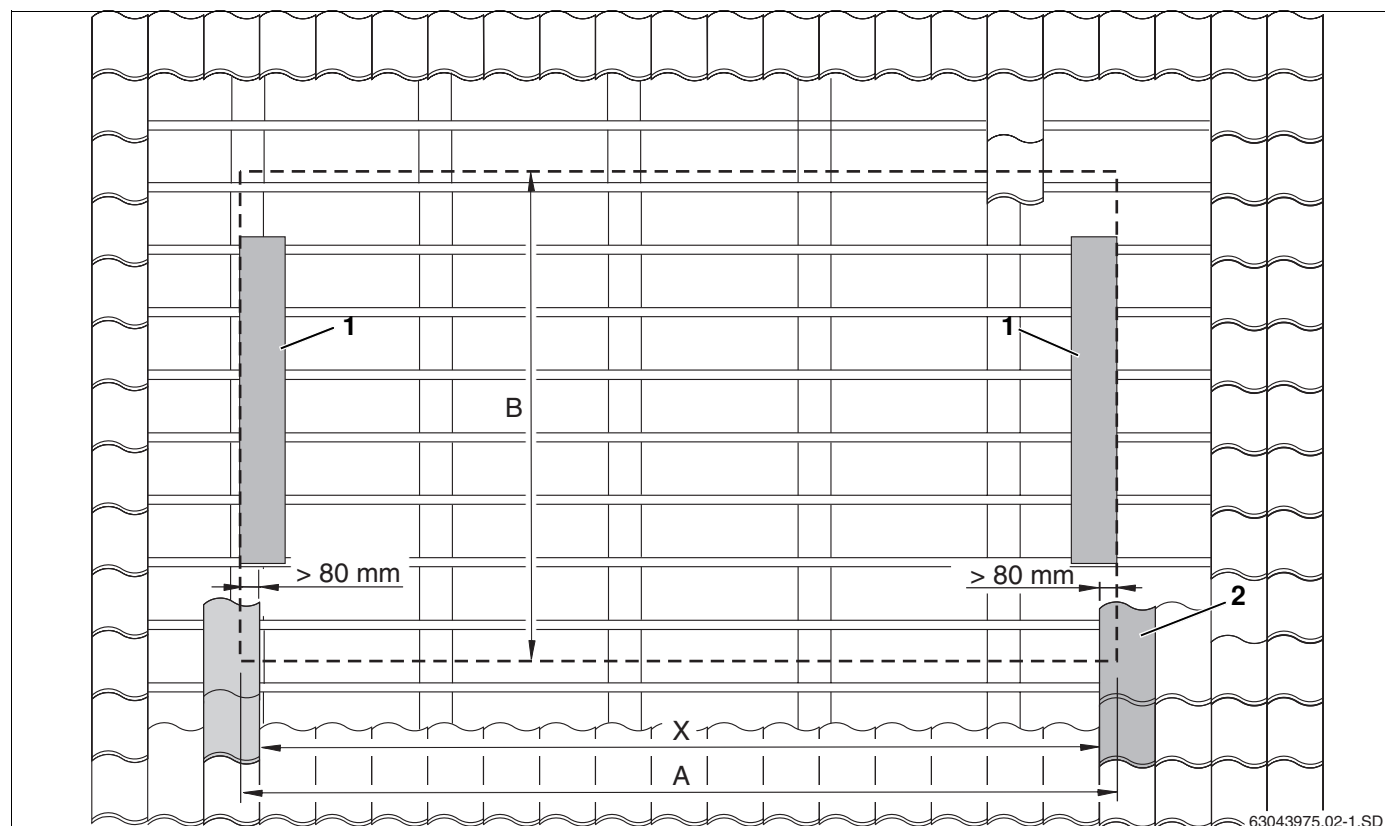

Fig. 8 Determining the exact position of the collector array
- Determine dim. X (distance between the tiles that lie on the side facing collectors, Fig. 8, **Pos. 1**) on the roof and mark it on the roof.
- Determine the lowest row of tiles (Fig. 8, **Item 2** taking dimension B into account (Fig. 8).